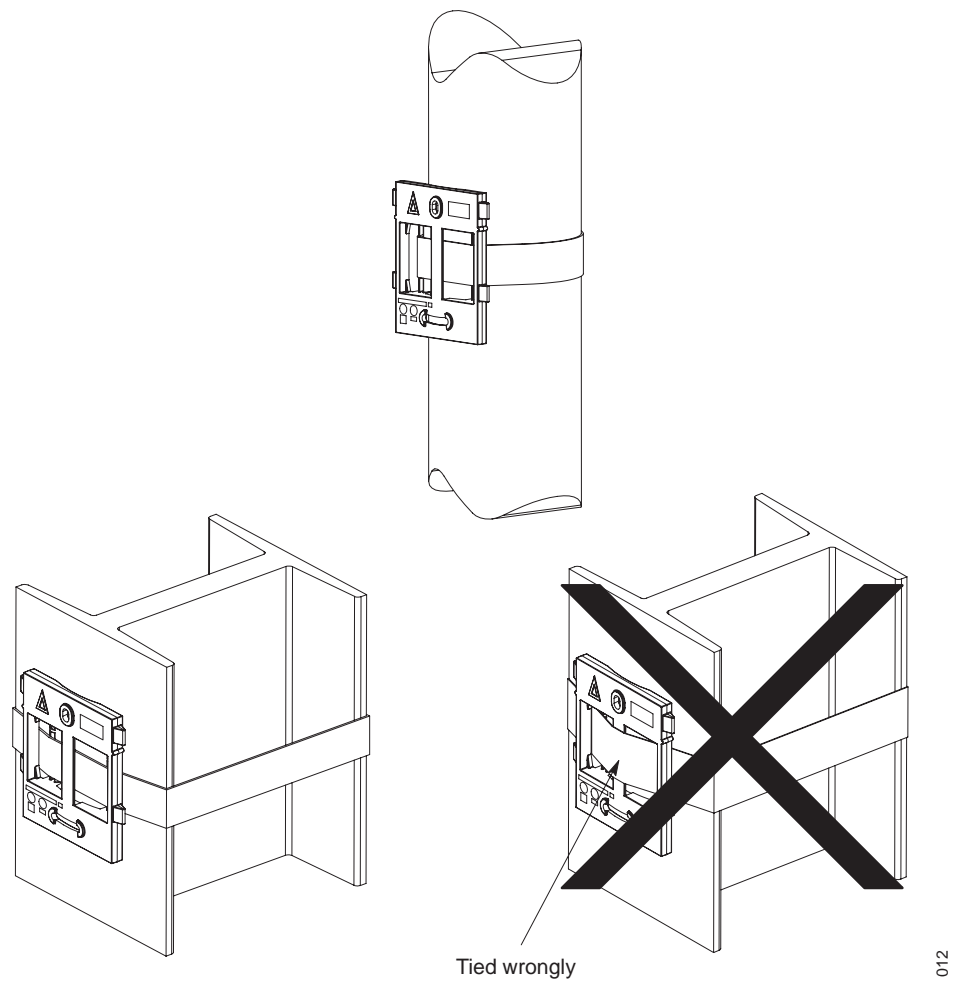

Figure 7. Fixing the mounting bracket to a pole or beam.
- 1 Fix the mounting bracket to a pole or beam using the metal band, see figure 7 on page 25.